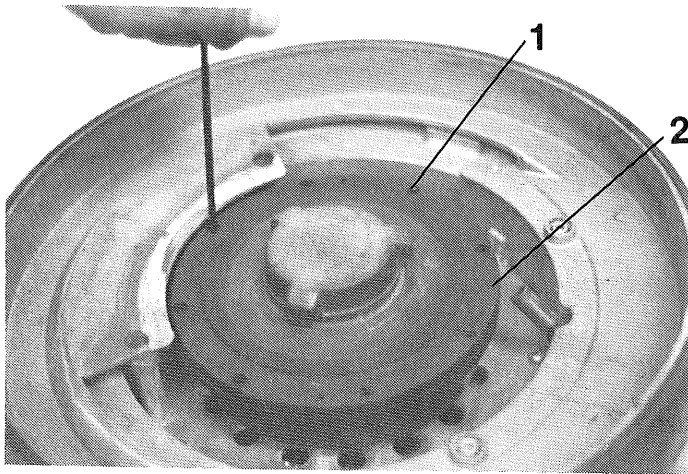

Figure 3
1. Put the machine upside down on a bench. See figure 3.
2. Remove the eight screws (1) that hold the cover on the gear housing. Remove the cover (2) from the housing.